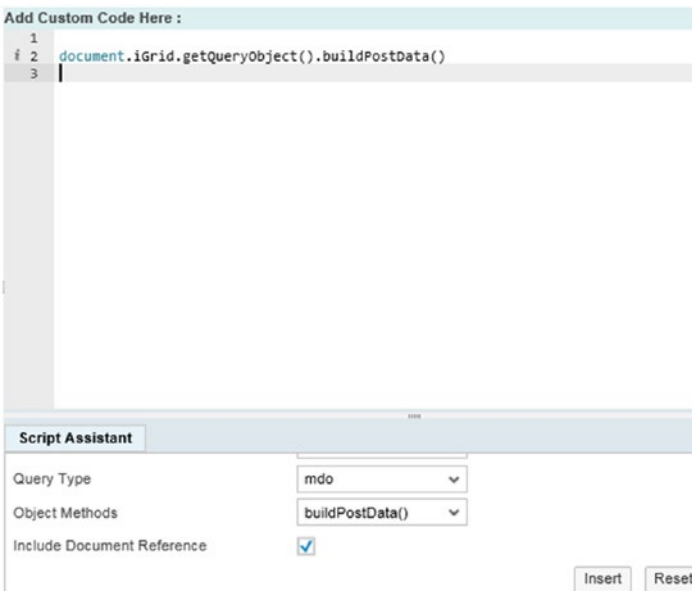

Figure 7-83. Including a document reference in SSCE
- **Include Document Object Reference:** If the checkbox is selected, the system adds the document object as a prefix to the applet name to reference an applet or a control on the web page. It is recommended to use a prefix. For example, when the checkbox is checked, a document prefix reference is added (see Figure 7-83).